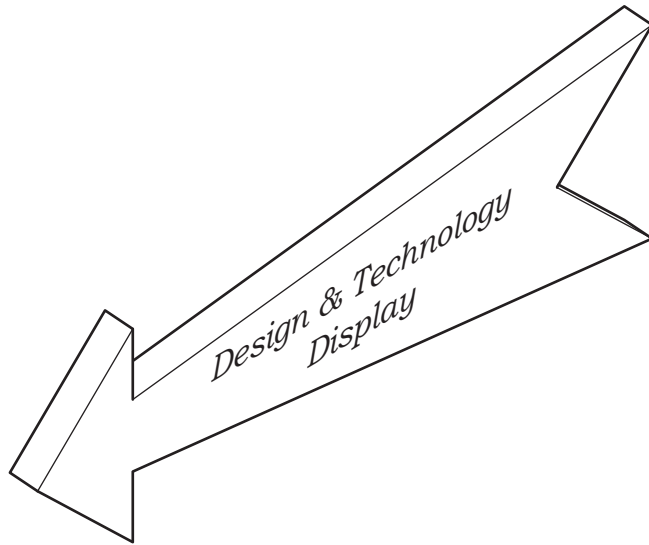

Fig. 10
- 12 Fig. 10 shows a sign that will be located in a school corridor to give directions to a Design and Technology display.